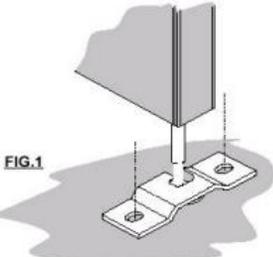

FIG.1
4. Slide anchor plate around glide stem and use holes in anchor plate as a template to mark floor for location of bolt holes (**Fig. 1**).